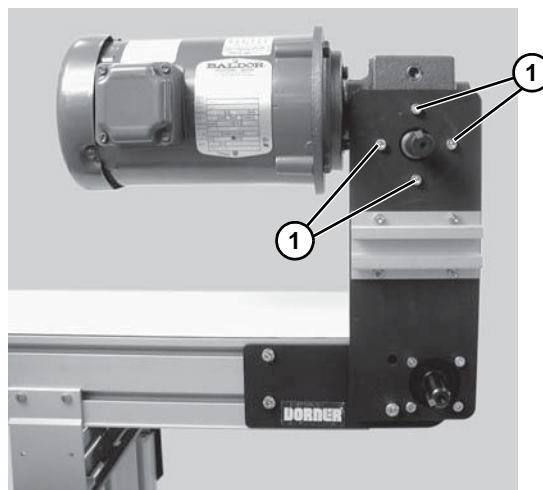

Figure 6
2. If required, change gearmotor position by removing four (4) screws (**Figure 6, item 1**). Rotate gearmotor to other position and replace screws. Tighten to 110 in-lb (12 Nm).